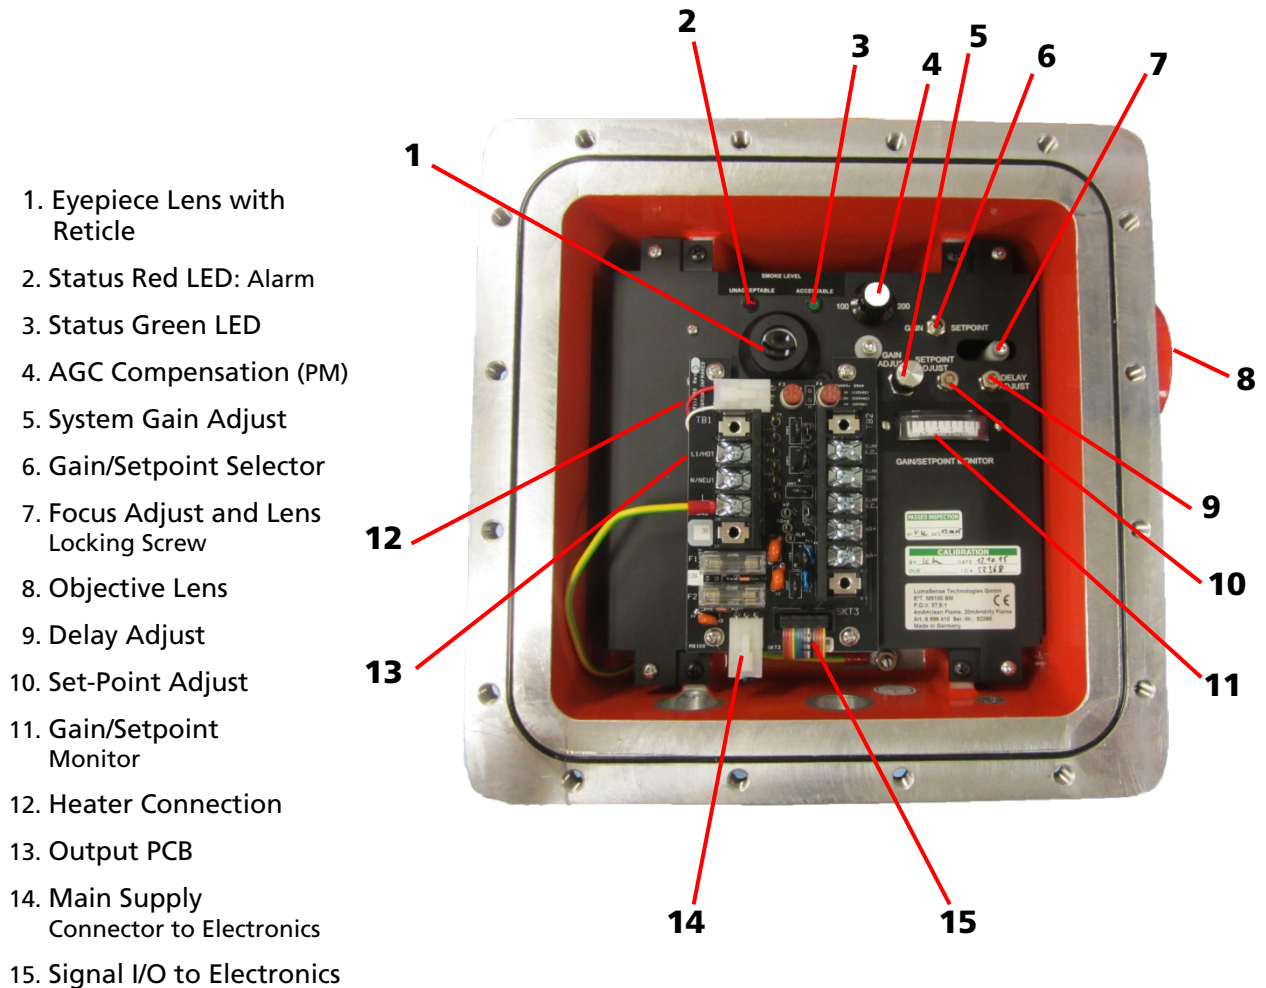

Figure 12: Opto-Electronics Module
Note: Refer to Figure 12: Instrument Aiming Concepts and Figure 13: Opto-Electronics Module for the following start-up procedure.
While operating the Flame Stack during normal conditions, aim the instrument at the flame on the top of the stack (Figure 12). Adjust the System Gain Pot (item 5) for a peak reading of approximately 0.5 (mid-scale) on the analog meter. Place your hand over the Objective lens. The analog meter should drop to slightly above zero.